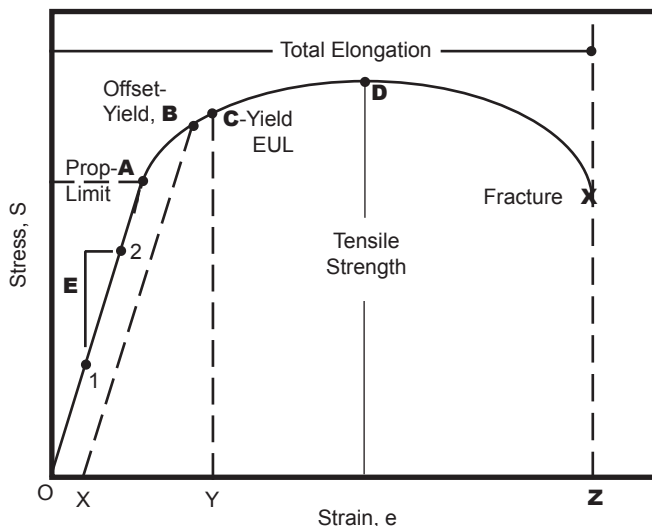

Figure 2 - Stress-Strain Curve.
A tensile test is employed to generate a stress-strain curve that provides a graphical description of the amount of deflection under load for a given material. A typical stress-strain curve is shown in Figure 2 and depicts several key measures of product quality.
Figure 2 depicts a typical stress-strain curve. The shape and magnitude of the curve is dependent on the type of metal being tested. In Figure 2, point **A** represents the proportional limit of a material. A material loaded in tension beyond point **A** when unloaded will exhibit permanent deformation. The proportional limit is often times difficult to calculate, therefore, two practical measurements, Offset Yield Strength and Yield by Extension Under Load (EUL) were developed to approximate the proportional limit. The initial portion of the curve below point **A** represents the elastic region and is approximated by a straight line. It is commonly referred to as the linear elastic or Hookean region. The slope (E) of the curve in the elastic region is defined as Young's Modulus of Elasticity and is a measure of material stiffness.
Point **B** represents the Offset Yield Strength and is found by constructing a line X-B parallel to the curve in the elastic region (ie. slope of line X-B equal to Young's Modulus (E)). Line X-B is offset a strain amount O-X that is typically 0.2% of the gage length (example: offset O-X = 0.2% = 0.002 in/in; for a 2 in gage length = 0.004 in). Point **C** represents the Yield Strength by Extension Under Load (EUL) and is found by constructing a vertical line Y-C. Line Y-C is offset a strain amount O-Y that is typically 0.5% of gage length. The Tensile Strength or peak stress is represented by point **D** in Figure 2.